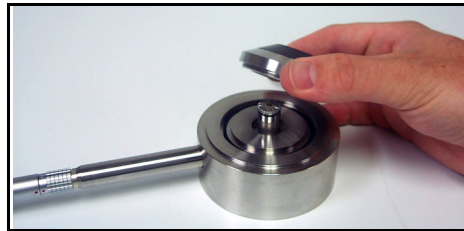

FIGURE 5-32 Coupler being installed on AEC201
- Step 3** Screw the coupler over the base (FIGURE 5-32) until finger tight.